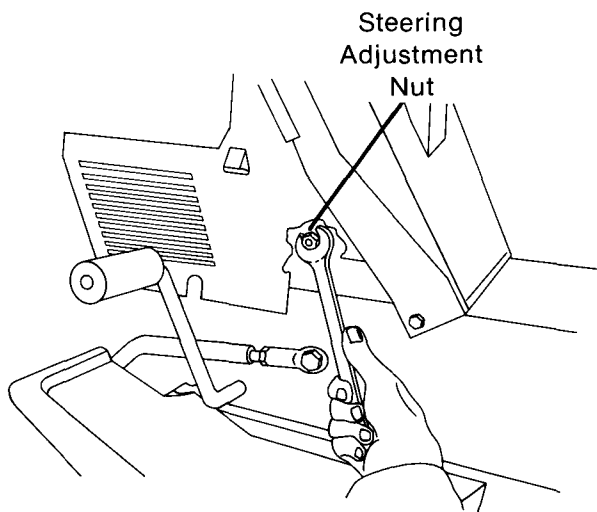

FIG. 32
- A. Adjust locknut on end of steering adjustment rod through hole in left side of instrument panel. (Fig. 32)
**NOTE:** Steering shaft end play can also be adjusted by tightening the steering adjustment nut. (Fig. 32) First, pull up on steering wheel until end play is removed. Hold in this position, then tighten adjustment nut until no end play is present.